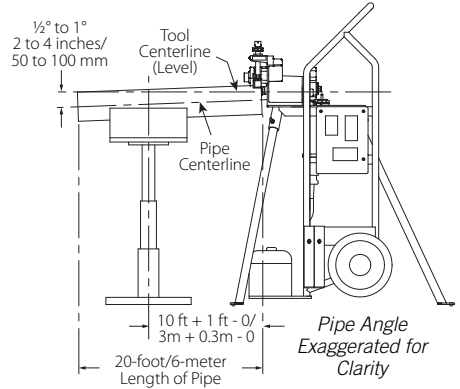

FIGURE 1 – SUPPORT OF PIPE
a. Ensure that the tool is level. Refer to the “Tool Setup” section for leveling requirements. Set the pipe stand height to produce a $\frac{1}{2}$ to 1° pitch on the pipe away from the tool (see Figure 1). This will help promote tracking and reduce pipe end flare.
d. If the tool is properly set up in a level position, but the back end of the pipe/tubing is higher than the end being grooved, the pipe/tubing may not track. As a result, excessive flare may occur on the pipe/tubing end. Refer to Figures 1 and 2 and the “Tool Setup” section for pipe/tubing positioning and tool setup requirements.
e. Position the pipe stand at a distance slightly beyond half the pipe/tubing length from the tool. Refer to Figure 1 below.
- Figure 1 shows a typical pipe stand.